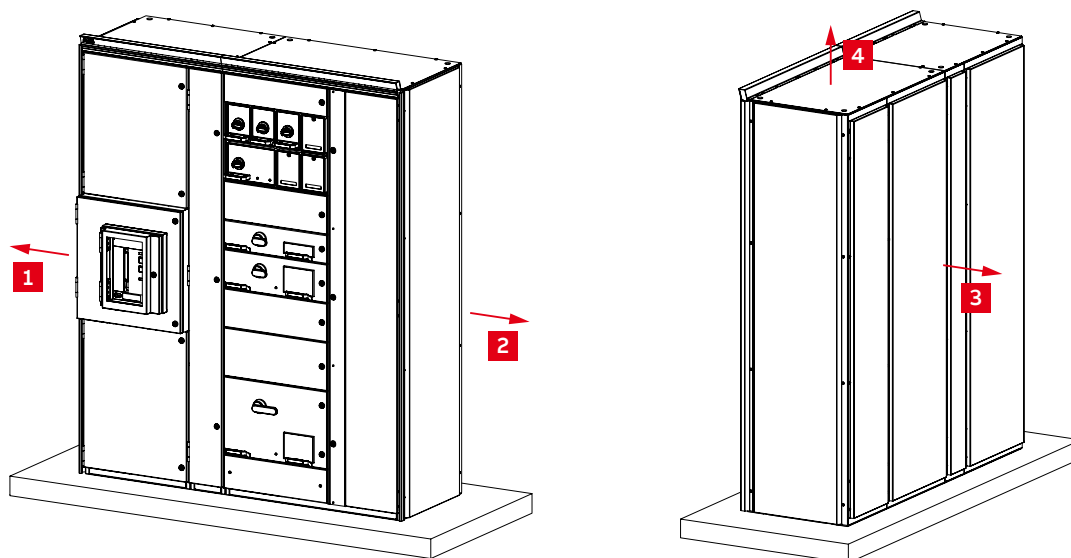

Figure 4-02 Section minimum clearances
- Clear access and space for installation, operation, maintenance and emergency situations. Clearances may vary depending to local regulations, Table 4-05 and Figure 4-02 to Figure 4-07 shows the minimum requirement as per ABB MNS design guidelines.